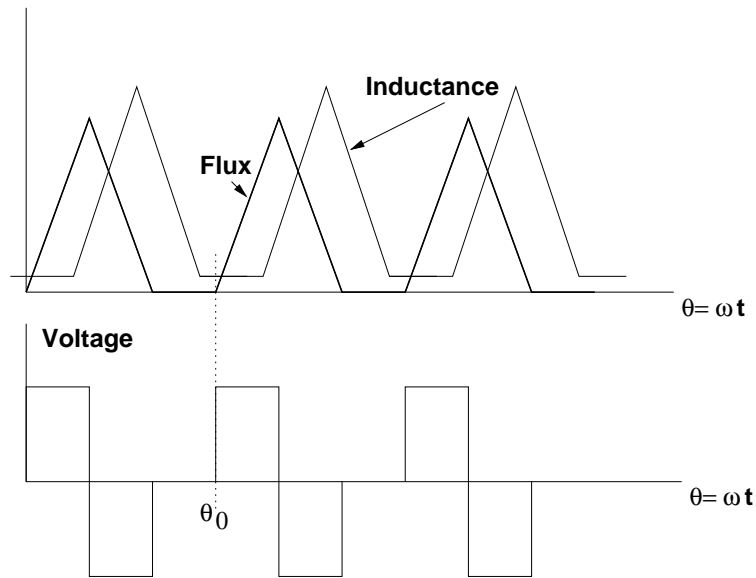

Figure 4: Operating Strategy
The machine is to be operated as shown in Figure 4. For each phase, voltage is applied, driving flux up to the maximum at which point the switches are turned off. Current continues to flow through the diodes of the drive circuit (not shown here), putting negative voltage across the phase until current (and flux) goes to zero. Note that the angle at which the voltage pulse starts,  $\theta_0$ , could vary over a wide range and is a control parameter. For the purposes of this problem assume that the width of the triangular pulse of flux is the same as the overlap angle ( $\pi/3$ ).
- Now the machine is to be operated at a steady speed of 1000 RPM. Find and calculate the time average torque as a function of the starting angle  $\theta_0$ . Assume the machine is operated as shown in Figure 4 with flux having a triangular pulse form and consequently voltage having positive and negative square pulses. Remember your voltage pulse may overlap more than one variation in inductance.